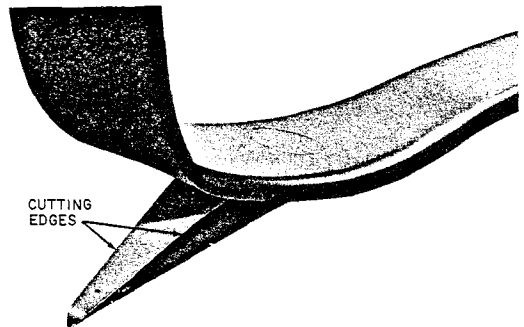

Fig. 17—Gaff Cutting Edges
7.01 During normal use of climbers the edges along inner surface (cutting edges), Fig. 17, may become dull. The honing stone should be used to maintain sharp edges. Remember that even a dull gaff can cut your finger so hone carefully.